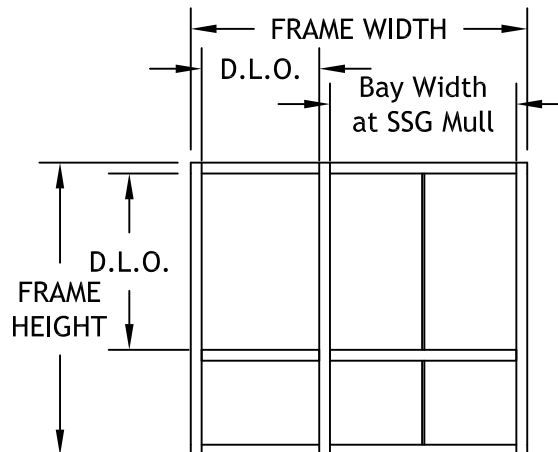

Figure 5
- 1.2 Cut material to size. SEE FIGURE 5 for guide.
Horizontal Face Caps @ SSG	Bay Width minus 1/16" (See figure 5) (Maximum length 3 lites or 15 feet)
Horizontal Face Caps @ SSG	Bay Width minus 1/16" (See figure 5)